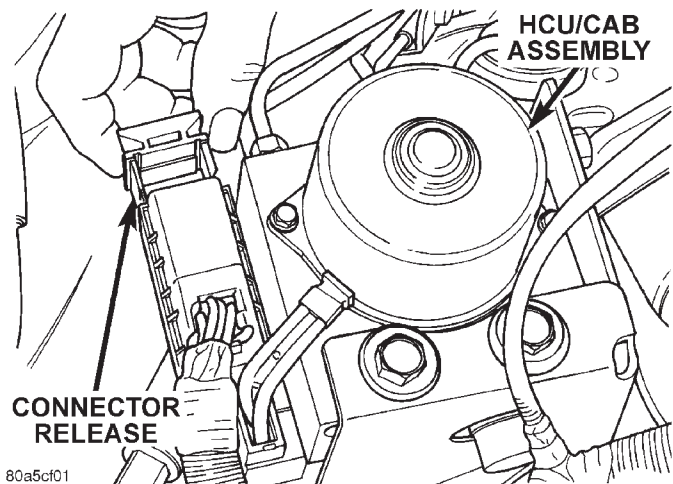
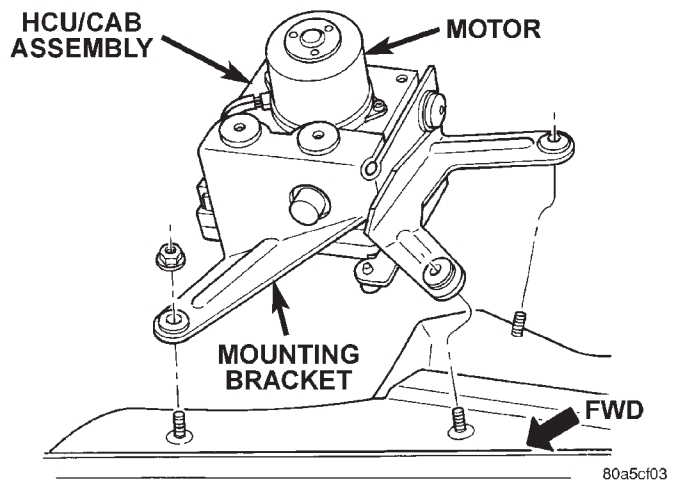

Fig. 5 CAB Connector Release
Fig. 6 HCU/CAB Assembly
- (1) Remove negative battery cable from the battery.
- (2) Remove air cleaner housing.
- (3) Remove windshield reservoir mounting bolts and move the reservoir to the side.
- (4) Remove steering gear shield.
- (5) Pull CAB harness connector release out and remove connector (Fig. 5).
- (6) Remove the brake lines from the HCU.
- (7) Remove HCU/CAB bracket mounting nuts (Fig. 6).
- (8) Remove HCU/CAB assembly from the vehicle.
- (9) Remove bracket bolts from the HCU/CAB assembly.